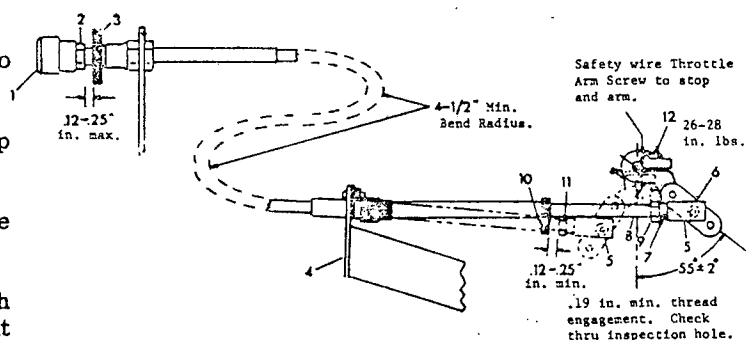

FIGURE 6-2 CARBURETOR THROTTLE ARM AND CABLE RIGGING
1. Screw throttle knob (1, fig. 6-2) and jam nut (2) all the way down and tighten jam nut (2) against throttle knob.
2. Place a .125 in. spacer between throttle knob jam nut (2) and friction lock (3) with friction lock partially loose.
3. Attach cable to throttle support bracket (4) at carburetor.
5. Adjust threaded ball joint (5) so carburetor throttle arm (6) is against the full open stop. Check through inspection hole (7) that ball joint (5) and push rod (8) have .19 inch minimum thread engagement and secure with jam nut (9).
6. If thread engagement in step 4 above is less than .19 inch, the throttle knob (1) may be threaded out to a minimum of .19 inch engagement and step 4 above repeated.
7. Space between plunger housing (10) and jam nut (11) at ball joint (5), with throttle closed, must be .12-.25 inch minimum.
8. Space between throttle knob jam nut (2) and friction lock (3), with throttle open and friction lock partially loose, must be .12-.25 inch maximum.
9. Torque throttle arm clamp screw (12) to 26-28 in. lbs.
10. Safety wire throttle arm and screw to throttle stop and arm as shown on figure 6-2.